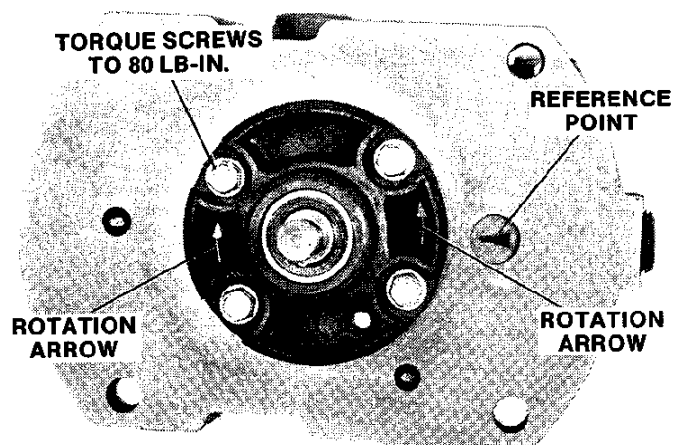
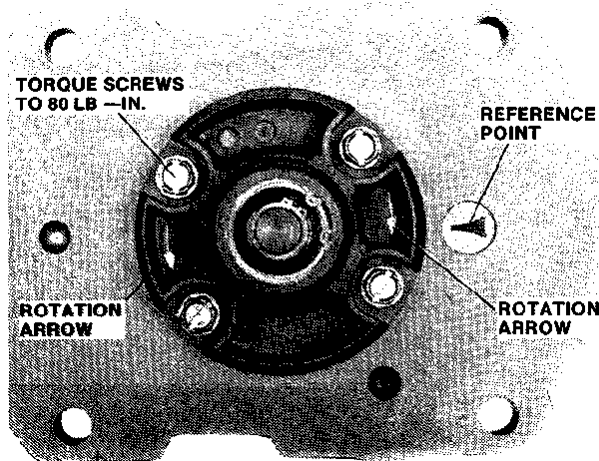

Figure 2-5. Set-up for cw Rotation of the Governor Drive Shaft
Figure 2-6. Set-up for ccw Rotation of the Governor Drive Shaft
4. Align the arrow on the pump housing with the reference point on the governor case. Figure 2-5 shows the set-up for cw rotation of the governor drive shaft.
Figure 2-6 shows the set-up for ccw rotation of the governor drive shaft.
As seen above in Figure 2-5, a TG-10 described as having a “clockwise rotation” is set using the arrow that points counterclockwise next to the reference point on the governor case. And a TG-10 described as having a “counterclockwise rotation”, as in Figure 2-6, is set using the arrow that points clockwise next to the reference point on the governor case. This is because normal rotation is stated viewing the governor from the top and that the governor is viewed from the bottom while changing rotation.